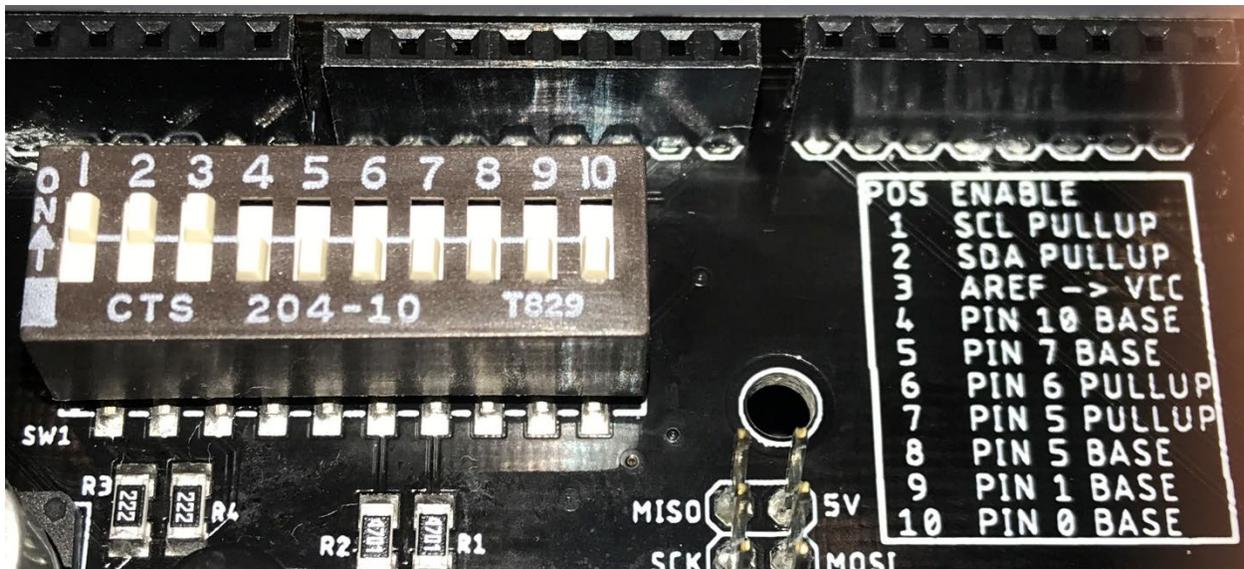

Figure 10: UniShield Function Switch Set
The Riser board contains a 10-position slide switch set to control different functions of the UniShield (see Figure 10). The switches enable the following functions:
2. With the UniShield upright on the worktable, remove the 2x Phillips head screws on either side of the Riser board (see Figure 10). Do not let the Riser board move until both screws have been removed.